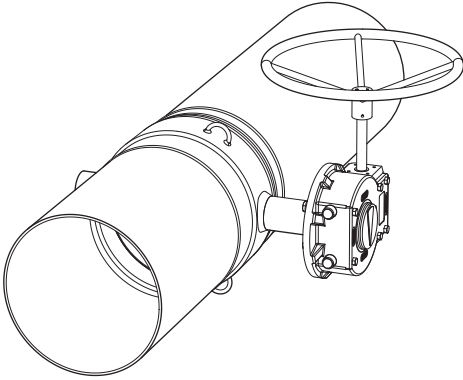
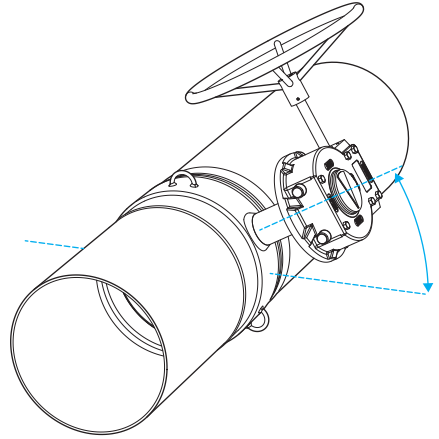

Figure 12. Installation in a horizontal position.
Figure 13. Installation at an angle.
The most recommendable installation position is in a horizontal pipeline with the valve stem horizontal (see Figure 12). The valve can alternately be installed at an angle of max 45° (see Figure 13).
- The recommended installation position for the valve is at an angle (see Figure 13.) or with the shafts in the horizontal position (see Figures 12 and 22). Avoid installation with the shafts fully upright.